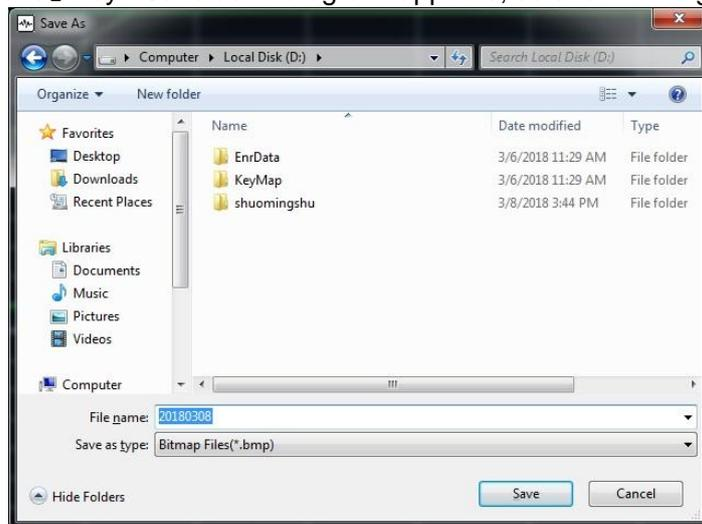

Fig. 3.20 Saving a screenshot
Step 1. Press the **【Save】** key. "Save as" dialog box appears, as shown in Fig. 3.20.